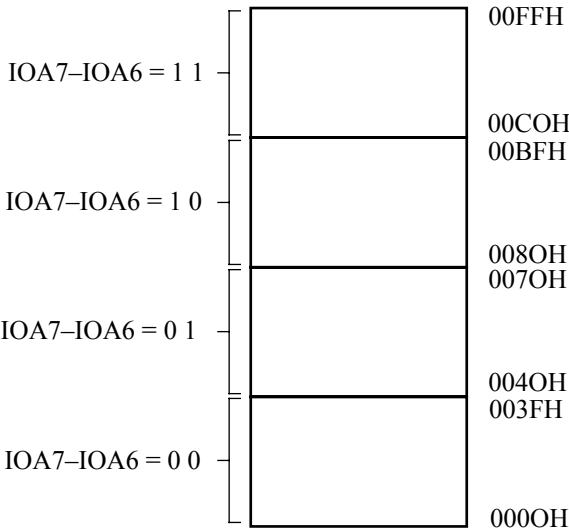

Figure 85. I/O Address Relocation
**IOA7, 6: I/O Address Relocation (bits 7,6).** IOA7 and IOA6 relocate internal I/O as indicated in Figure 85. Note that the high-order 8 bits of 16-bit internal I/O address are always 0. IOA7 and IOA6 are cleared to 0 during RESET.